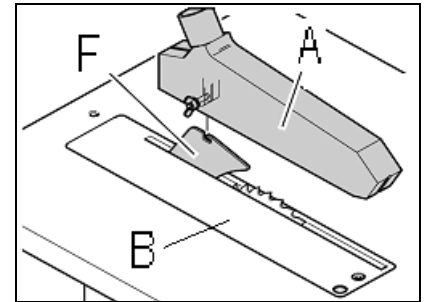

Fig 18
Attach the saw guard (A, Fig 18) to the raving knife (F) with 1 carriage bolt, washer and wing nut